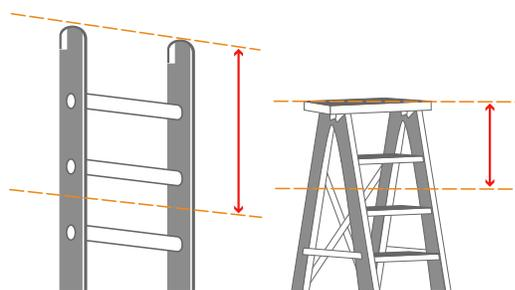

Figure 2
- Stay off the top two rungs of a straight or extension ladder, and the top step and cap of a stepladder (see Figure 2).